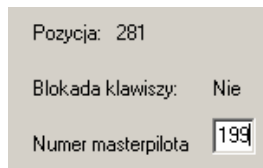

fig. 39
**Point 9.** You can change the number of the master remote control by entering the number of the programmed control in the field shown on the fig. 39.